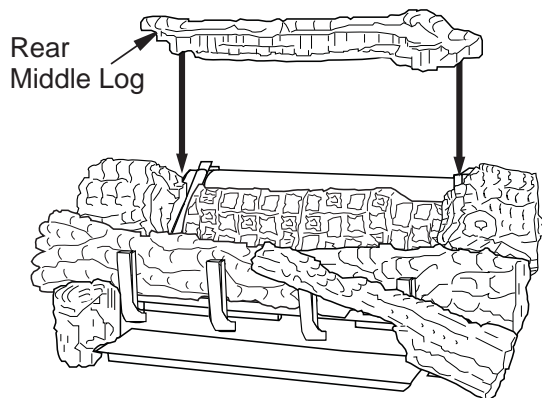

Figure 30 - Installing Rear Middle Log
8. The rear middle log (18" D-068, 24" & 30" D-042) should fit between the ramp log and the rear burner. The left and right middle logs have recessed areas for the rear middle log to sit into (See **Figure 30**). There may be a small gap between the rear middle log and the ramp log, this is normal.. Be careful not to push the rear burner out of position while installing this log.